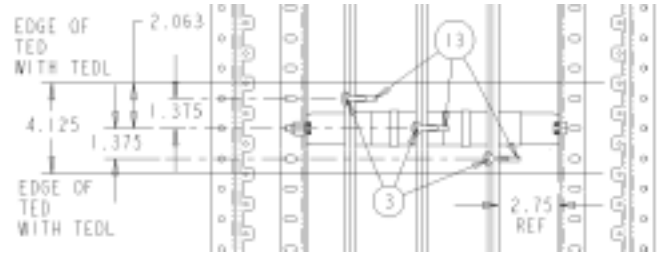
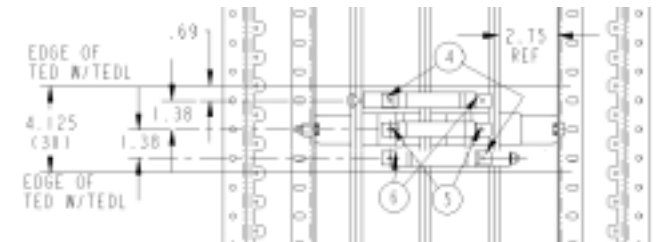

Figure 4a. Carriage bolt and antiturn clip assembly.
Figure 4c. Installing the straps.
4. Mount the strap assembly. Position the carriage bolt and antiturn clip assembly from step 2 as shown in Figures 4a and 4b. Place the straps [4, 5, 6] as shown in Figures 4c and 4d. Leave the connection finger-tight at this time.